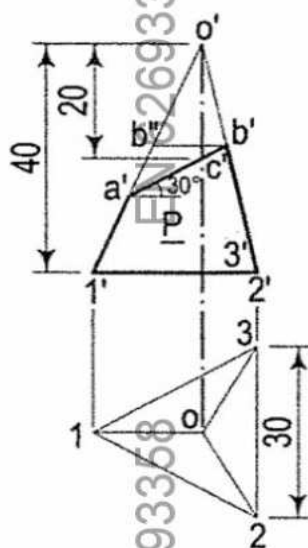

Fig. 1
- C) Draw the development of the lateral surface of the part P of the triangular pyramid as shown in Fig. 1. The line  $o'1'$  in the front view is the true length of the slant edge because it is parallel to xy in the top view. The true length of the side of the base is seen in the top view. (CO 6) 6